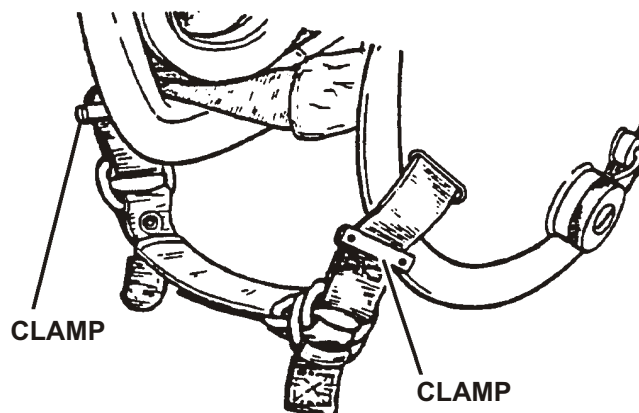

Figure 2-3. Chinstrap Clamps
5. Loosen the chinstrap clamp screws, and slide the clamps (Figure 2-3) down as far as possible on the chinstrap. Adjust the nape straps for a snug fit. Slide the clamps to hold the adjusted straps in place, and tighten the screws.